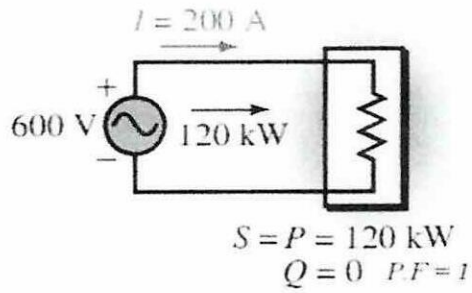

Figure Q4(c)
- (b) Explain **four (4)** functions of busbar in substation. (4 marks)
- (e) A busbar is to be installed at a Low Voltage (LV) switchboard panel. The total load of the panel is 290 kW with Power Factor (PF) of 0.87 and short circuit current (I_{sc}) 17.9 kA. Considering Safety Factor (SF) of 125%, calculate the appropriate busbar size. Please take note that the tripping time of Air Circuit Breaker (ACB) for the panel is 1 second. (8 marks)
- Q4.** (a) List **three (3)** types of load with an example for each type. (3 marks)
- (c) **Figure Q4(c)** shows a pure resistive load of 120 kW connected with a 600 V generator, supplying 200 A.
- (ii) Using **Figure Q4(c)**, sketch how a capacitor is connected to the installation and calculate the value of capacitor that need to be used in order to raise up the power factor back to value 1.0 (unity). (Formula in Appendix). (6 marks)
- (d) A load with 100 kW and power factor 0.75 (lagging) needs to be connected to a Low Voltage (LV) switchboard panel. A power factor correction scheme that uses capacitor bank is designed to improve the value of the power factor to 0.9. With the aid of power triangle diagram, calculate the value of capacitor that is to be installed (formula in Appendix). Available capacitor sizes in the market are 20 kVar, 25 kVar and 30 kVar. (9 marks)